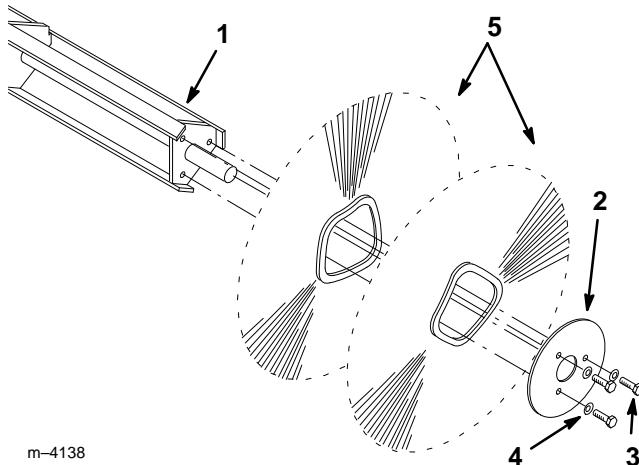

Figure 22
5. Remove the three bolts and washers securing the axle plate on the axle and remove the plate (Fig. 22)
6. Slide the brushes off of the axle assembly (Fig. 22).
7. Slide a new brush onto the axle assembly so the alignment pins of the brush ride over **the bottom** bar of the axle assembly (Fig. 22).
8. Rotate the next brush 180° from side to side and top to bottom and slide it onto the axle assembly so the alignment pins of the brush ride over **top** bar of axle assembly (Fig. 22).